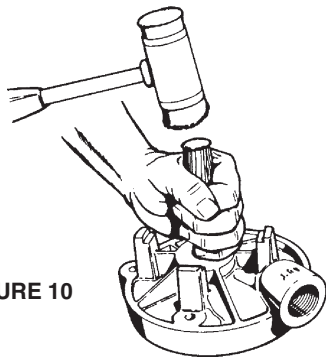

FIGURE 10
9. Before the motor bracket (#1) can be removed, the four (4) "O" rings (#8), located on the upper left and right studs must be removed.
10. Remove the seat portion of the seal. Refer to Figure 10.